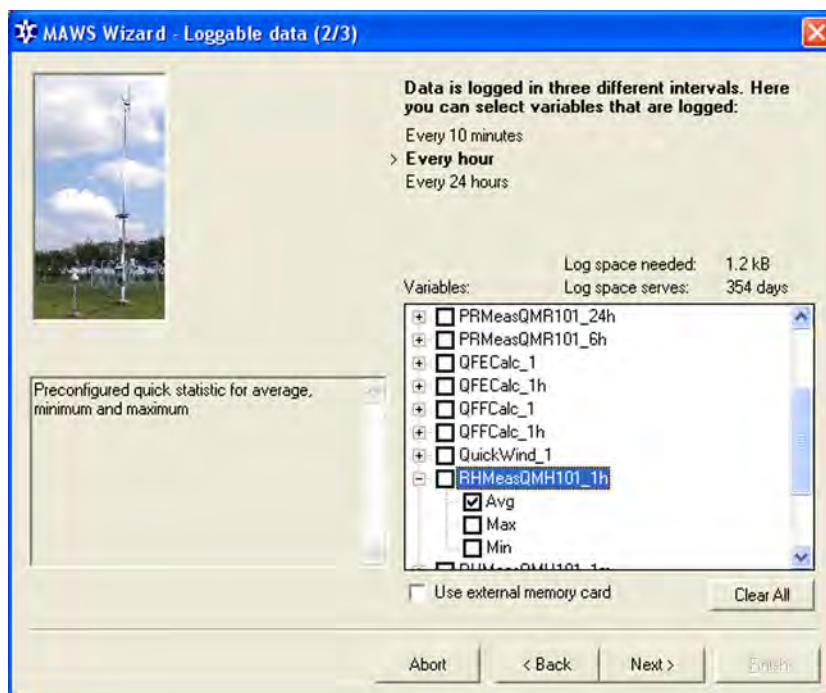

Figure 18 Selecting Variables for One-Hour Logging
8. In the **Loggable data** views, presented in Figure 18 on page 40, you can select the logged variables for ten-minute, one-hour, and 24-hour intervals.